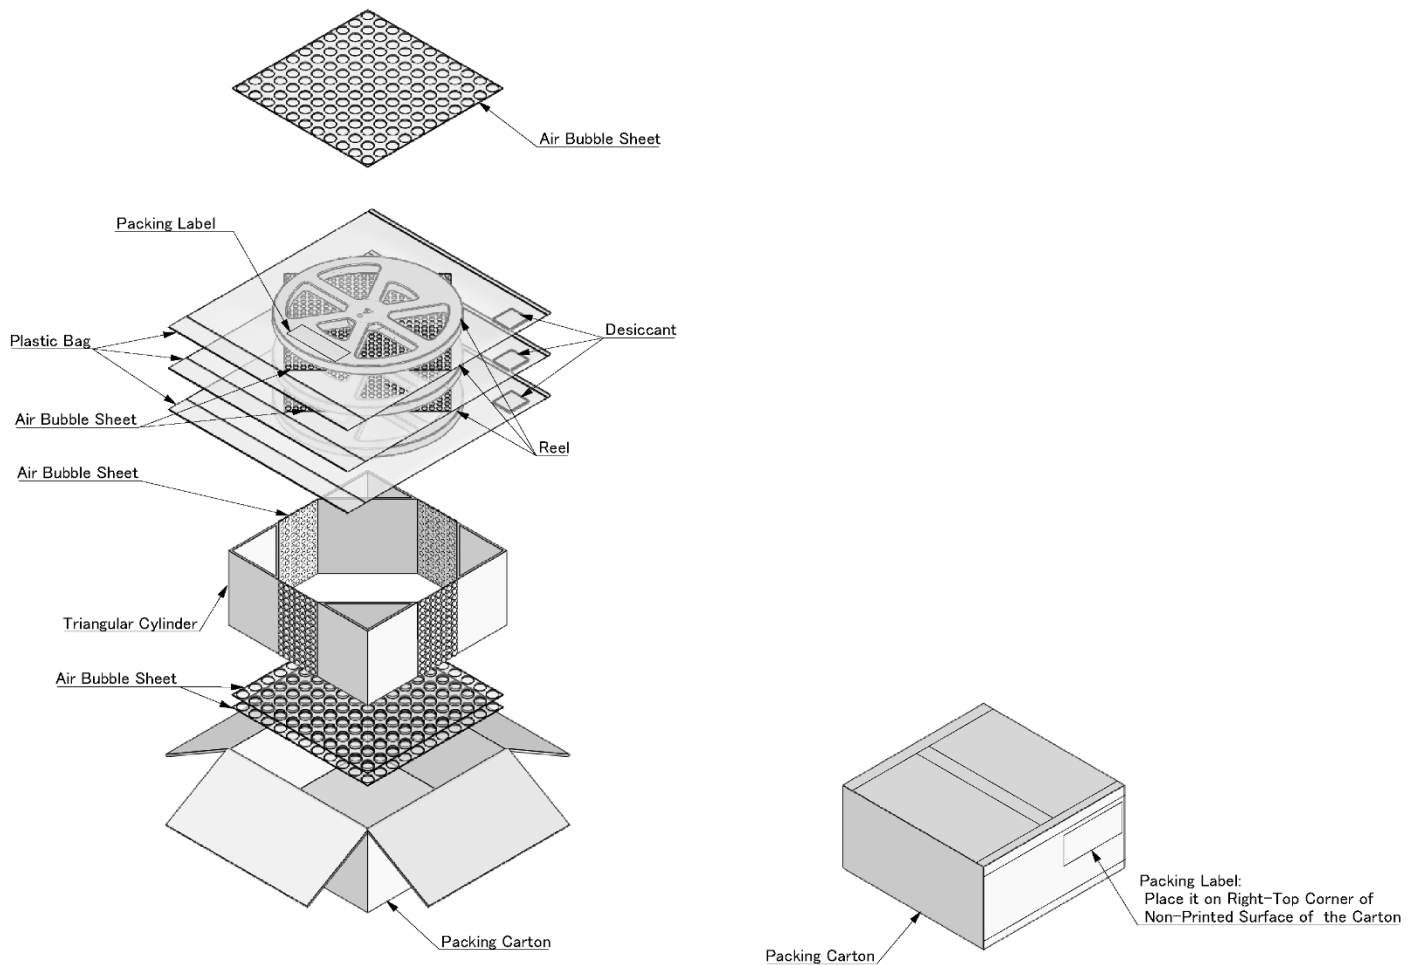

Fig.1
④ Product Name : EX. CABLINE-UM RECEPTACLE ASSEMBLY
⑤ QR Code
⑥ Check Stamp
⑦ Country of Origin
⑧ Recycle Mark and Compliance Mark
⑨ Logo Mark
⑩ Manufacture Name
5. Packing Method [See Fig 1]